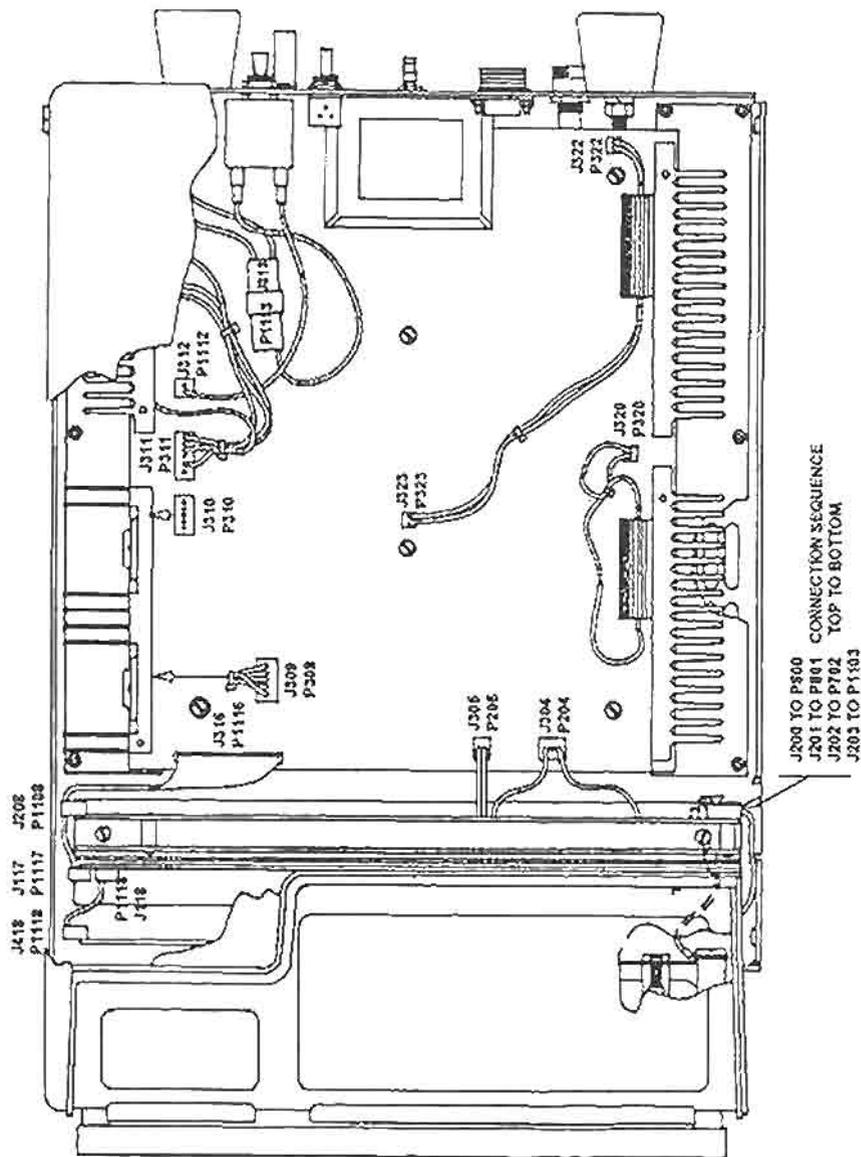

Figure 3-25. Connectors - view 1.
(1) Verify that the electrical power toggle switch, located on the back panel of the ES apparatus, is at the "O" symbol. Also verify that the electrical power cord is disconnected from the electrical receptacle.
(2) Remove the four slotted screws and lock-washers fastening the top cover of the ES apparatus to the base assembly. Set them aside.
(3) Remove the top cover by gently rocking it back and forth while simultaneously pulling upward. Set it aside.
(4) Disconnect the following electronic plugs (fig 3-25):
- (1) Position the control panel assembly onto the base assembly.
- (2) Reinstall the three hex socket screws into the lower front of the control panel assembly to fasten it to the base assembly.
- (3) Reinstall the two slotted screws through the base assembly and into the RF shield bracket.
- (4) Reinstall the handle.
- (5) Reinstall the slotted screw and flat washer into the left-hand handle rod.
- (6) Insert the slotted screw through the crimped terminal lug of the green/yellow electrical ground wire and then the flat washer. Reinstall the screw into the right-hand handle rod.
- (7) Reconnect the following electronic plugs. (Refer to figure 3-25.)
(8) Reinstall the top cover and refasten it with the four slotted screws and lockwashers.
(2) Remove the four slotted screws and lockwashers fastening the top cover of the ES apparatus to the base assembly. Set them aside.
(4) Disconnect the following electronic plugs. (Refer back to figure 3-25.)
- (4) Insert the longer slotted screw and flat washer through the mounting hole in the lower left side of the RF shield and then push the plastic standoff onto the screw. Then, while holding the screw and standoff with your fingers, position the screw into its mounting hole and reinstall the screw.
- (5) Position the RF shield into place and reinstall the slotted screw into its mounting hole in the lower right-hand corner of the MD/C PCB.
- (6) Turn the control panel assembly upright with the front control panel facing forward.
- (7) Connect P1118 to J118 on the left side of the MD/C PCB.
- (8) Position the control panel assembly onto the base assembly.
- (9) Reinstall the three hex socket screws into the lower front of the control panel assembly to fasten it to the base assembly.
- (10) Reinstall the two slotted screws through the base assembly and into the RF shield bracket.
- (11) Reinstall the handle.
- (12) Reinstall the slotted screw and flat washer into the left-hand handle rod.
- (13) Insert the slotted screw through the crimped terminal lug of the green/yellow electrical ground wire and then the flat washer. Reinstall the screw into the right-hand handle rod.
- (14) Reconnect the following electronic plugs. (Refer back to figure 3-25.)